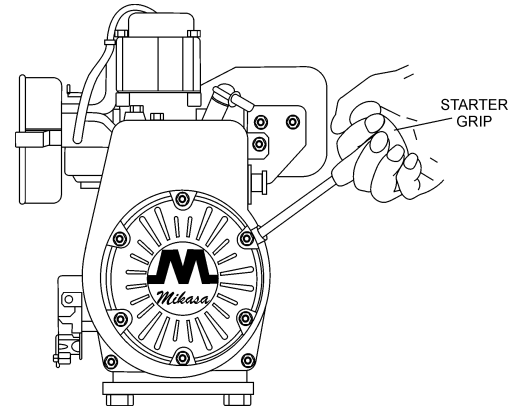

Figure 11. Recoil Starter
- Grip the recoil starter (Figure 11) handle and pull it until you feel a slight resistance. Then pull sharply and quickly. Return the recoil starter handle to the starter position before releasing.